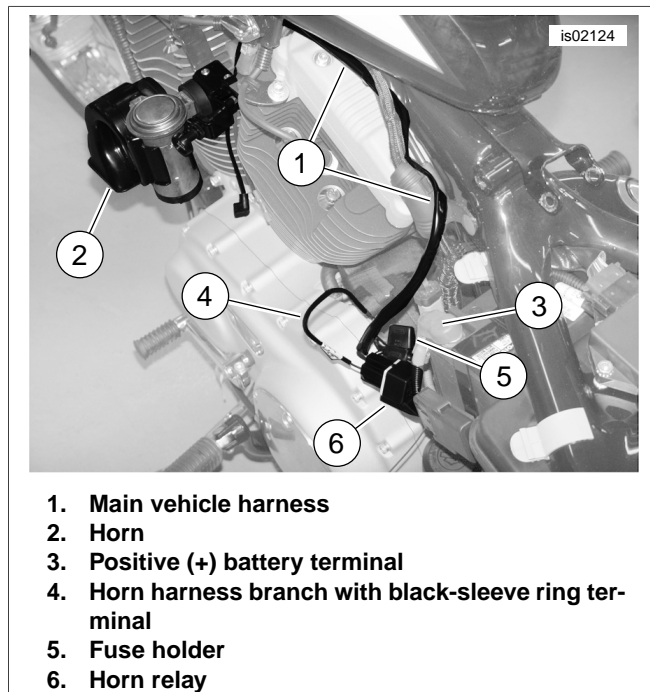

Figure 4. Horn Harness Routing
12. Obtain the horn wiring harness (8) from the kit. Position the relay (F) on the harness with the electrical connector facing forward and down. Use a cable strap (10) to attach the relay to the positive (+) battery to maxi-fuse wire conduit.
- a. See Figure 4. Bring the longest branch of the horn wiring harness upward and forward alongside the main harness (1) on the left side of the frame to a point directly above the **new** horn (2).